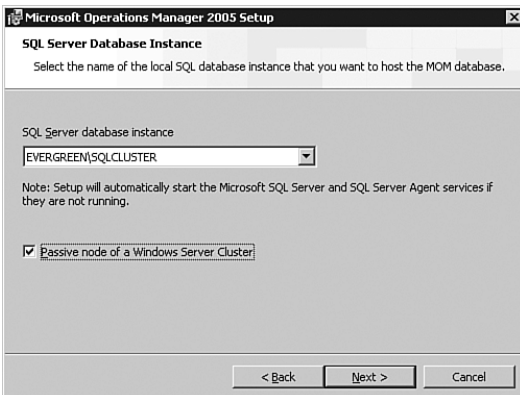

FIGURE 10.11 Configuring the SQL Clustered passive node for the OnePoint database.
4. After completing Setup for the OnePoint database on the active node, run Setup to install the database on each passive node in the SQL Cluster (Evergreen2). Figure 10.11 displays the difference from setting up the database on the active node—make sure that you select the Passive Node of a Windows Server Cluster check box.